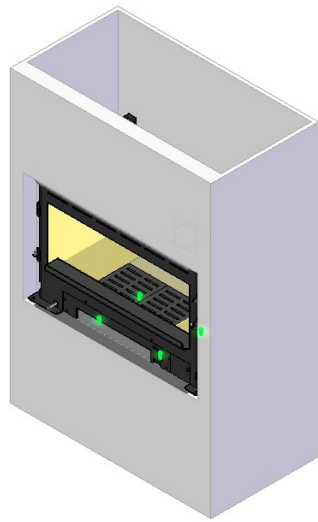

**Figure 13 - Distance of the equipment from the plasterboard or masonry face**
11. After placing the unit in place, it should have a distance of 40 mm from the face of the plasterboard or masonry to the front face of the unit, so that when you install the frame, it will be well installed, see Figure 13.